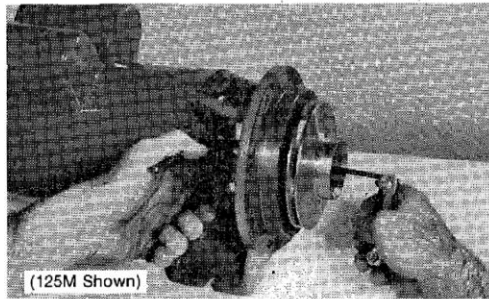

FIG. 2
- Remove impeller by holding stub shaft with water pump pliers and unscrewing cap screw. (Fig. 2)